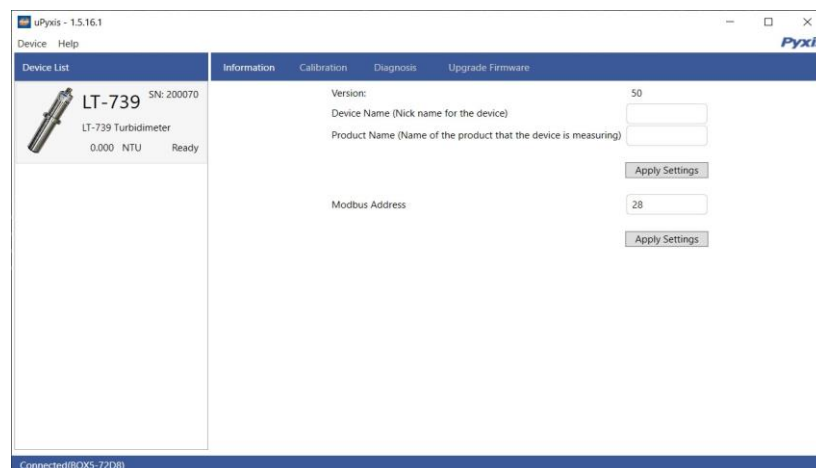

**Figure 18.** Connect to LT-73X Series via USB-RS485 Option
- 6) Select Connect via USB-RS485 (Figure 18).